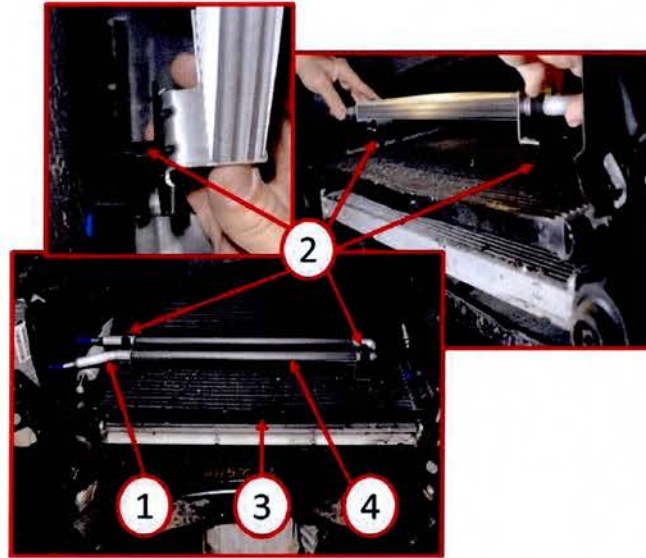

Fig. 4 Steering Cooler Installation
13. Insert the holding clips (2) into the steering cooler (4) (Fig. 4).
14. From the front of the vehicle, with the outlet lines of the cooler (1) facing toward the passenger side, insert the cooler holding clips (2) into the condenser (3) at the marks indicated on the condenser (Fig. 4).